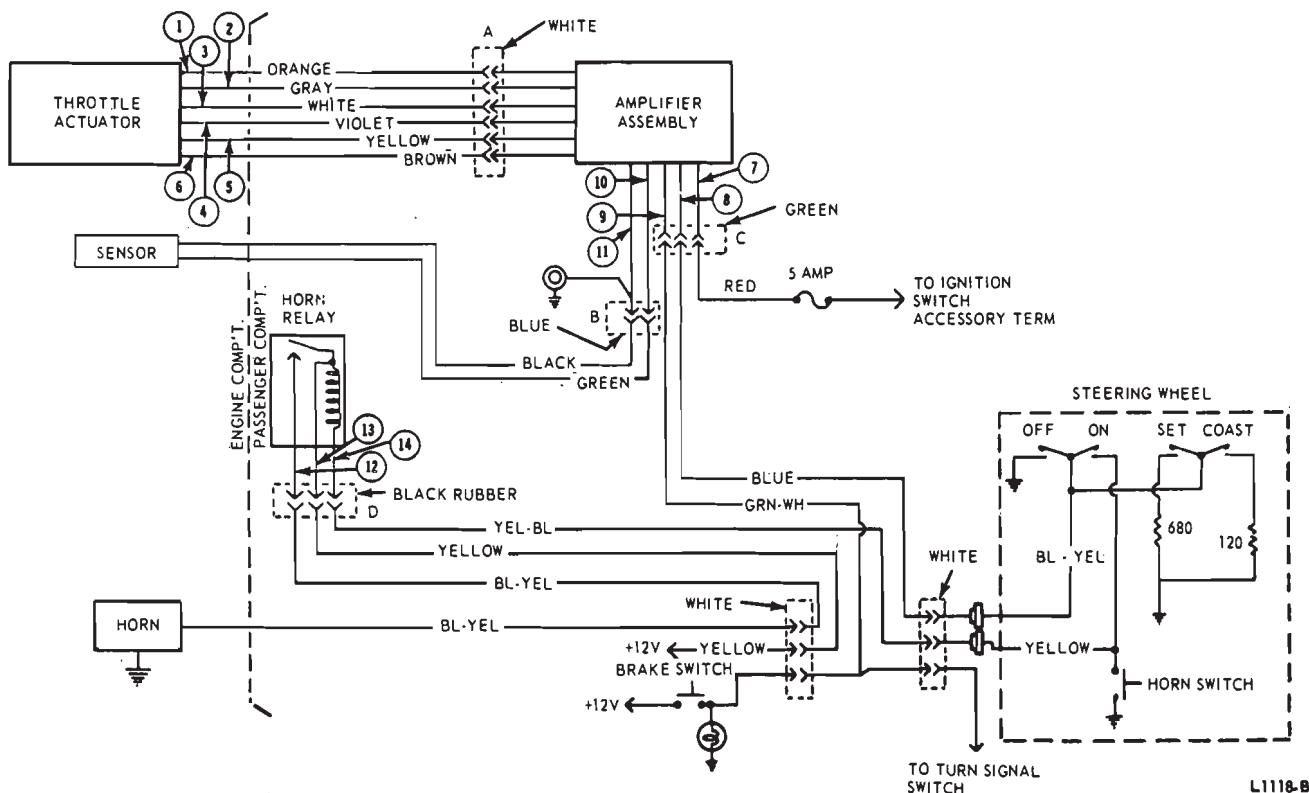

FIG. 1—Bendix Speed Control System Wiring Diagram—Ford, Mercury, Meteor and Thunderbird
1. Check for battery voltage at the blue lead when the ON switches is depressed. Battery voltage should be available at the blue lead coming from the control switches. (Refer to the wiring diagram in Fig. 1).
3. With an ohmmeter connected between the blue wire and ground, depress the set-speed switch. A reading of approximately 680 ohms should be indicated on the ohmmeter (Fig. 1).